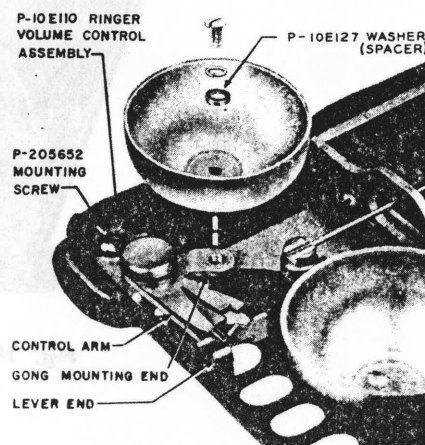

Fig. 18 — Ringer Volume Control Assembly
- (3) Place gong on ringer volume control assembly using a P-10E127 washer (Fig. 18).